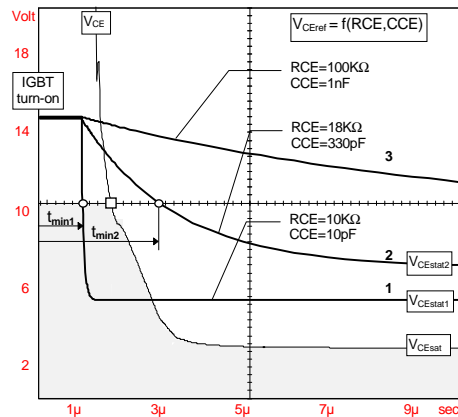

Fig.6 V_{CEref} waveform with parameters R_{CE} , C_{CE}
5) With $R_{CE} = 18 \text{ k}\Omega$, $C_{CE} = 330 \text{ pF}$; see fig. 6 (SKHI 10; for IGBT up to 1200 V)
This circuit is responsible for short-circuit sensing. Due to the direct measurement of V_{CEstat} on the IGBT's collector, it blocks the output buffer (through the soft turn-off circuit) in case of short-circuit and sends a signal to the ERROR memory on the primary side. The recognition of which V_{CE} level must be considered as a short circuit event, is adjusted by R_{CE} and C_{CE} (see Fig. 2), and it depends of the IGBT used. Typical values $R_{CE} = 18k\Omega$ and $C_{CE} = 330 pF$ for SKHI 10 are delivered from factory (Fig. 6, curve 2). Using SKHI 10/17 the driver will be delivered with $R_{CE} = 36 k\Omega$ and $C_{CE} = 470 pF$ from factory.
To avoid a false failure indication when the IGBT just starts to conduct (V_{CEsat} value is still too high) some decay time must be provided for the V_{CEref} . As the V_{CE} signal is internally limited at 10V, the decay time of V_{CEref} must reach this level after V_{CE} or a failure indication will occur (see Fig.6, curve 1). A t_{min} is defined as function of V_{CEstat} and τ to find out the best choice for R_{CE} and V_{CE} (see Fig.6, curve 2). The time the IGBT come to the 10V (represented by a „□“ in Fig. 6) depends on the IGBT itself and R_{gon} used.